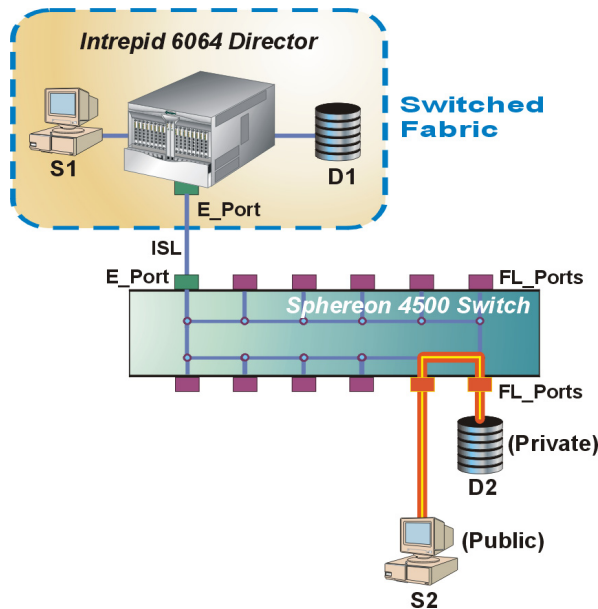

Figure 3-4 Private Device Connectivity
- Private device** - A loop device that cannot transmit an FLOGI command to the switch nor communicate with fabric-attached devices is a private device. As shown in Figure 3-4, device D₂ is a private loop device connected to a Sphereon 4500 Switch and cannot communicate with any fabric-attached device. However, device D₂ can communicate with switch-attached server S₂ (using private addressing mode).